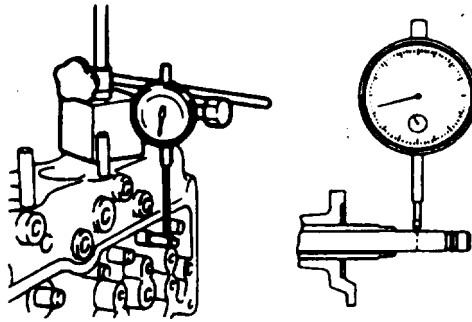

FIGURE 3-66. Valve Stem and Guide Clearance
- (1) With valve and valve guide in cylinder head, set a dial indicator at zero on valve stem, refer to FIGURE 3-66.
- (2) Move valve head from side to side and read dial indicator. Note highest reading.